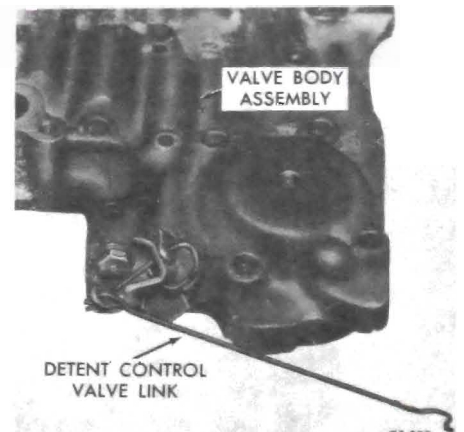

Figure 75-297
4. Connect detent control valve wire to detent valve actuating lever. See Figure 75-297.